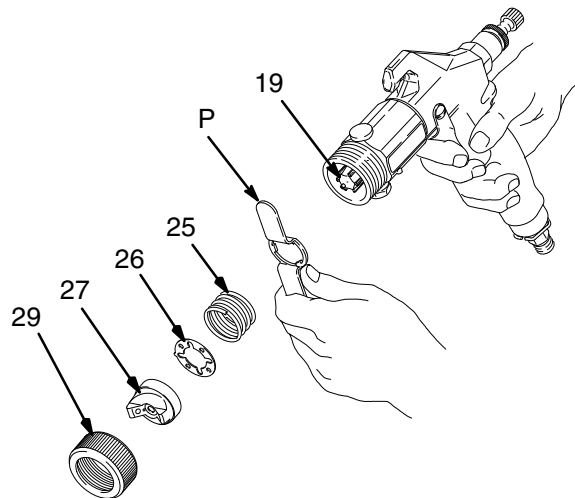

Fig. 18
2. Remove the air cap retaining ring (29), air cap (27), spring (25), and detent plate (26). See Fig. 18.
3. Trigger the gun while you remove the fluid nozzle (19) with the nozzle wrench (P). See Fig. 18.